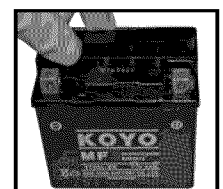

Figure 26
- After charging is complete, install securely all six battery caps (see figure 26)